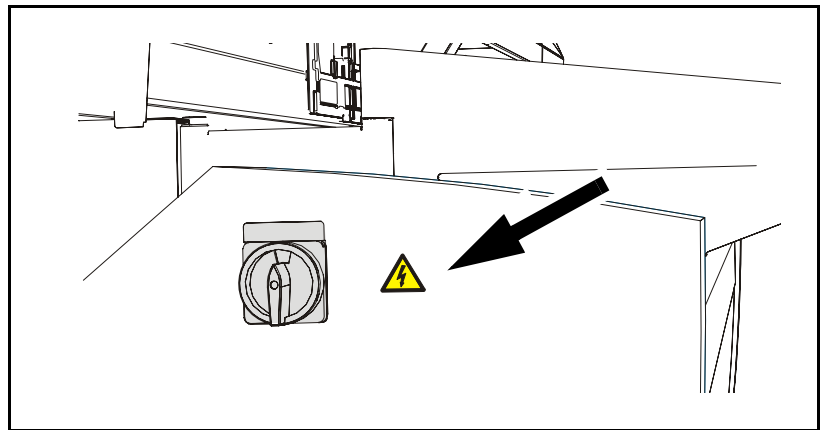

Figure 1-7. Sign at the main switch.
- One sign at the main switch, see Figure 1-7.